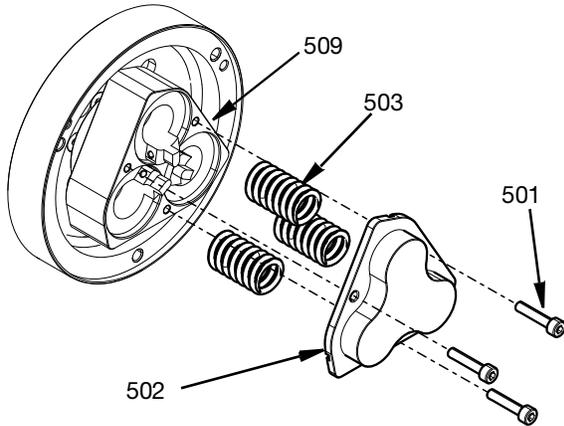

FIG. 13
2. To access the shutoff valve rods (512) and pistons (506), first evenly remove the three M4 screws
(501). The cylinder cover (502) along with the springs (503) can then be removed. See FIG. 13.